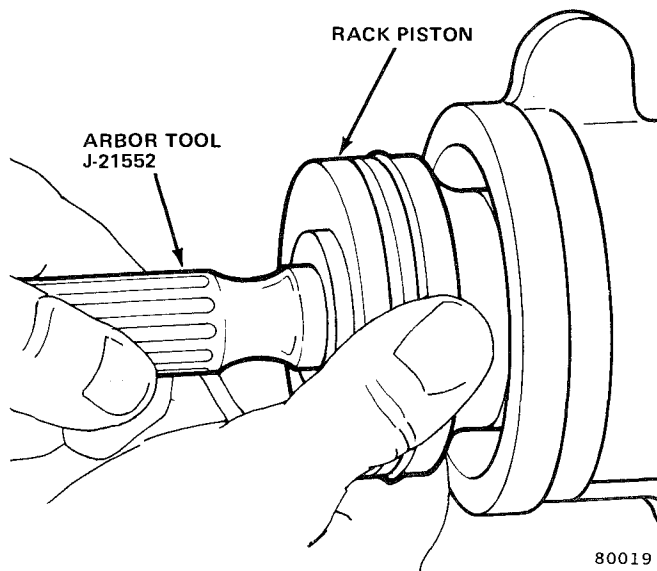

Fig. 2L-15 Rack Piston Removal/Installation
- (2) Remove steel washer (fig. 2L-17).